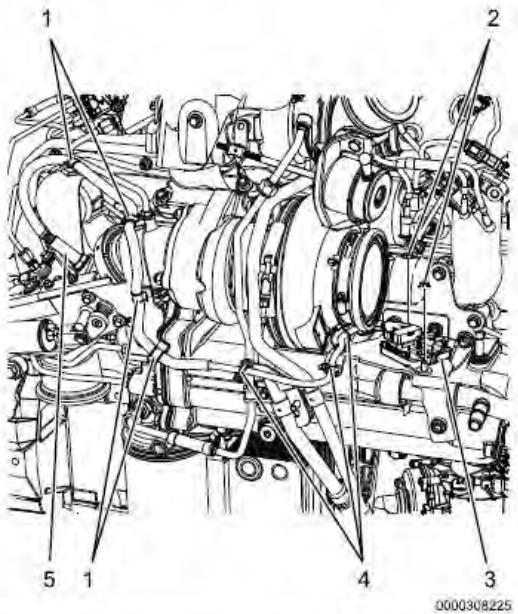

**Figure 53 NOxIn Concentration Sensor and Module**
**NOxIN Concentration Sensor and Module****Figure 53 NOxIN Concentration Sensor and Module**
1. Harness clipping (4)
2. M6 nut (2)
4. Tie straps (3)